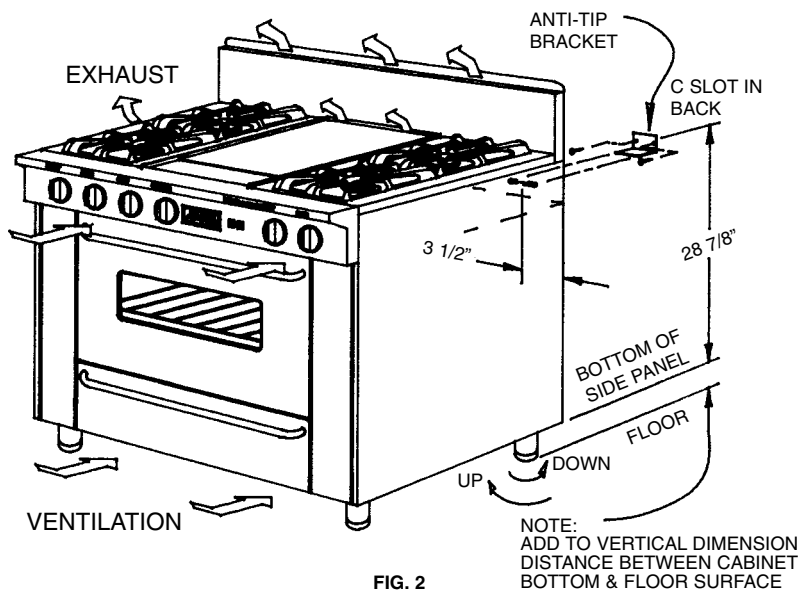

FIG. 2
- 3) REMOVE RANGE AND INSTALL ANTI-TIP BRACKET TO WALL, SEE NOTE, FIG. 2.
NEVER BLOCK THE FLOW OF AIR FOR COMBUSTION OR VENTILATION. SEE INSTRUCTION FIG. 2.
Ranges and built-in cooktops must be level to obtain proper cooking results. Ranges adjust from 35 7/8” to 37 7/8” or 2” max. All units must be level front-to-back and side-to-side. See Fig. 2.